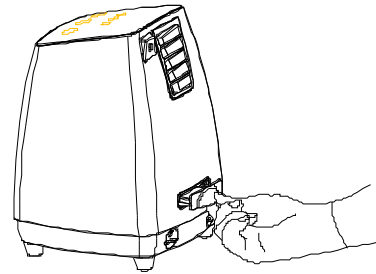

Fig. 4
7.4 The device is equipped with a compartment for aromatic oil. When aromatic oil is filled into it, the air is aromatized. Aromatic oil is not included into the scope of supply (Fig.4).